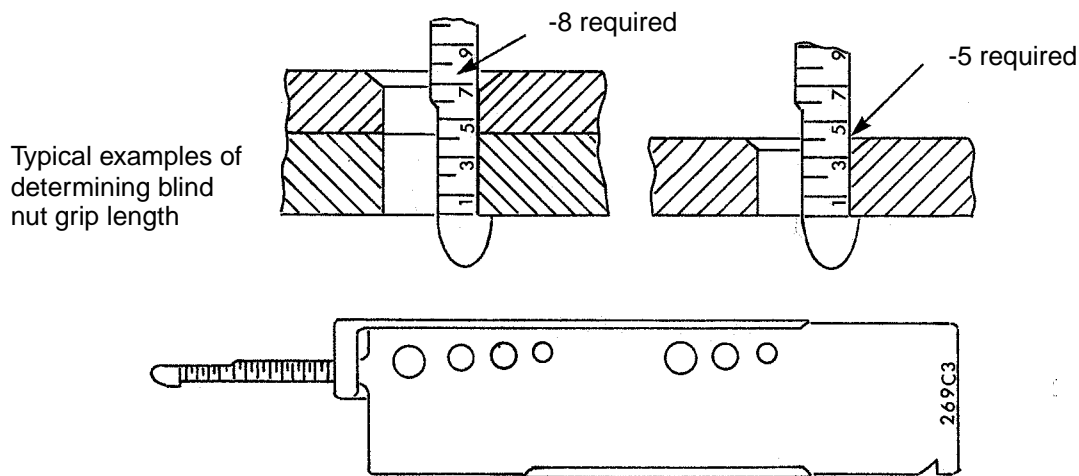

Figure 5 - Use of a Cherrymax Rivet Grip Gauge
- 5.4.2 Blind nuts are extremely grip length sensitive and it is imperative that the correct grip length be selected and used in order to ensure satisfactory performance of the fastener in service. Verify that the grip length specified is correct by measuring the combined material thickness, after final drilling, using a Cherrymax/Cherrylock rivet gauge No. 269C3 as shown in Figure 5. The fastener grip length specified is only a **reference length**, and if the grip length determined by measurement does not agree with the specified grip length, use the measured length. The minimum total material thickness for installation of blind nuts is 0.080"; if the total material thickness is less than 0.080" refer to Liaison Engineering.